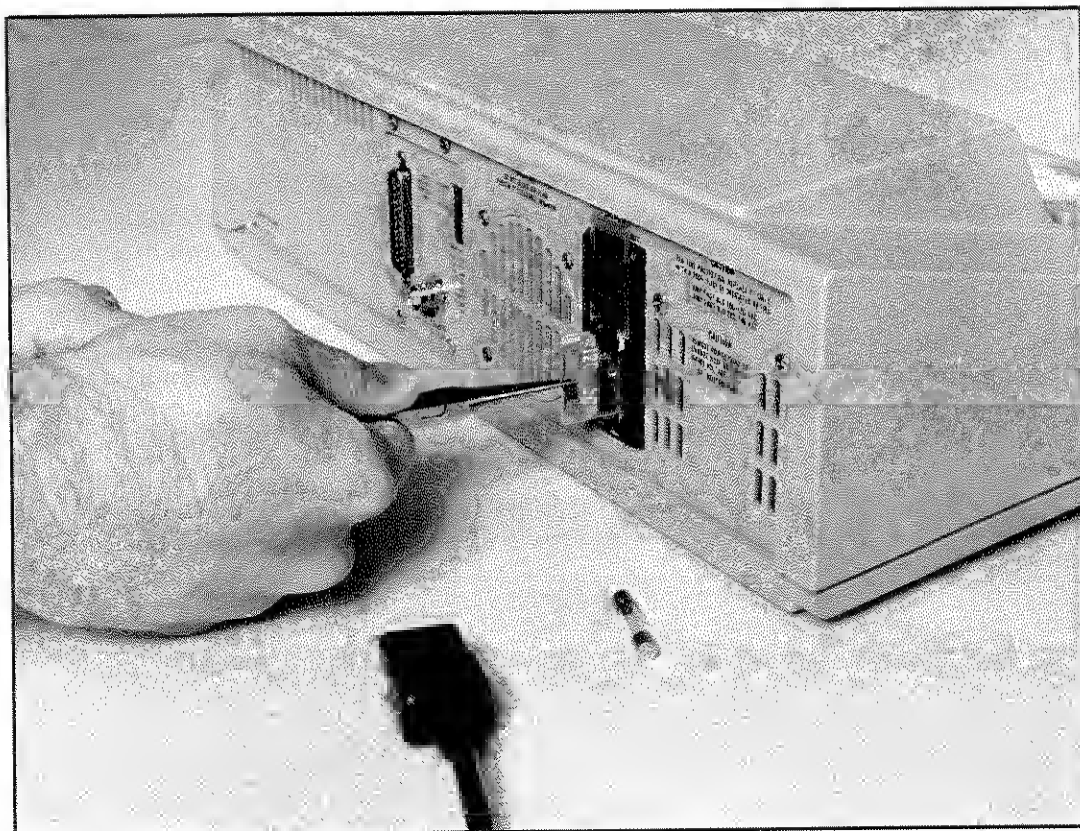

Figure 2-2. Changing the Line Voltage
The line voltage selection should only be changed by a qualified technician. The line voltage selection is changed by removing and reinserting the voltage selection card. The voltage selection card is inserted into a slot next to the line fuse in the compartment recessed in the rear panel (see Figure 2-2). As a safety precaution, the power cord and the line fuse must be removed to allow access to the voltage selection card. The voltage selection card may be inserted into its slot in any one of four ways, corresponding to the four available line voltages. To change the line voltage, do the following:
2. Using a pair of needlenose pliers (see Figure 2-2), pull the line voltage card straight out.
3. Turn the card and insert it into its slot so that the value of the desired line voltage is the upper value facing the fuse slot. In Figure 2-2, the card is oriented to select 120V.